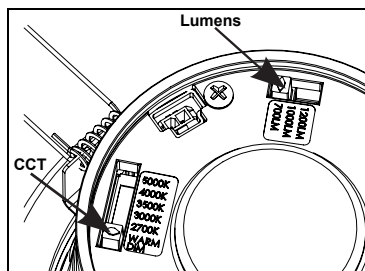

Figure 4
Step 4. On fixture, select CCT and lumen output desired (Fig 4) by lifting cap and using (2) switches provided. Factory setting for CCT is 3000K and lumen output is 1000L.